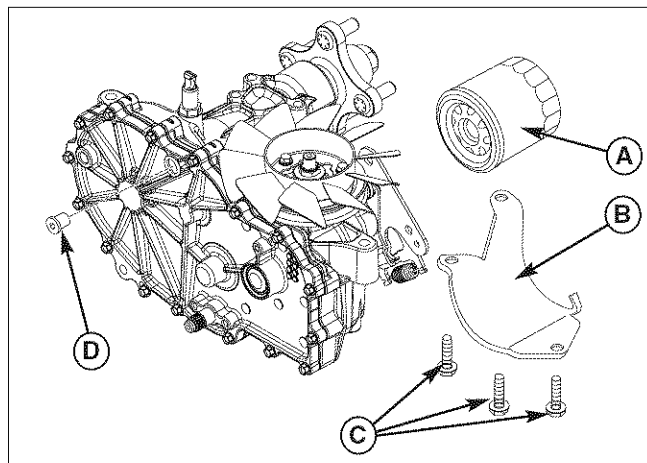

Figure 22. Transmission (Left Side Shown.)
1. Locate the transmission oil filters (A, Figure 22) underneath the rear of the machine on the transmissions.
2. Remove the three 1/4" filter guard screws (C) and the filter guard (B).